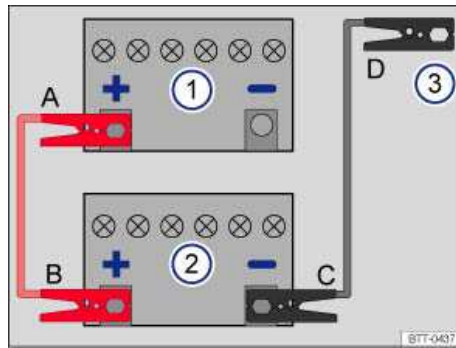

Fig. 211 Diagram for attaching the jumper cables: Dead battery 1 and booster battery 2.
The procedure for attaching and for removing the jumper cables is described below. Perform each of the following steps only in the order described, which follow the letters shown in the illustration ⇒ fig. 211 A – B – C – D.
3. Attach one end of the *red* jumper cable to the **positive terminal (+)** of the dead battery (1) ⇒ ⚠.
4. Attach the other end of the *red* jumper cable to the **positive terminal (+)** of the good battery (booster battery) (2).
5. Attach one end of the *black* jumper cable to the **negative terminal (-)** of the booster battery: Battery (2) ⇒ fig. 211.
6. Attach the other end of the *black* jumper cable (3) to a **bare metal part of the vehicle with the dead battery**. This part should be connected directly to the engine block. You may also attach the cable to the engine block itself. Attach the clamp to a point that is as far away as possible from the dead battery (1) ⇒ ⚠.